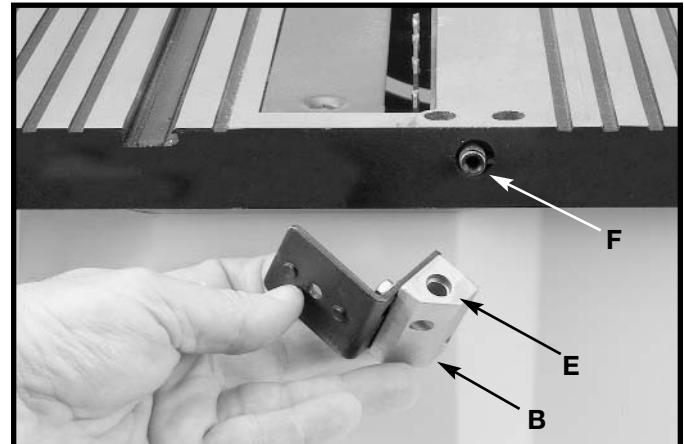
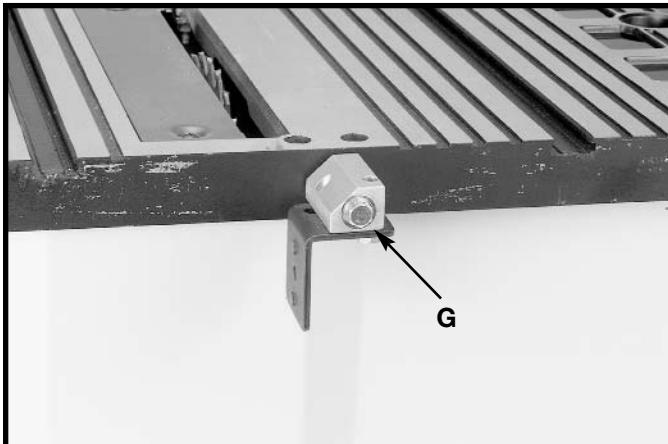

Fig. 19
Fig. 20
- Position the recessed end (E) Fig. 19 of the splitter bracket (B) against the end of the pivot rod (F), and fasten using the assembly in **STEP 3. NOTE: Do not completely tighten screw (G) at this time.** Assembly shown in Fig. 20. **NOTE: Loosely tighten the hardware for further adjustment.**